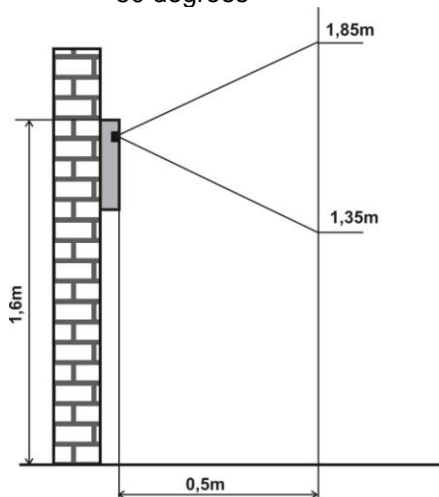

**Fig. 3 Examples of relay connection**
**Relays (10)** on Fig. 1 have many possibilities of practical use. The examples (drawings) can be found on Fig. 3. 12V power supply must be connected for correct operation. The doorphone unit has got all important parts galvanically isolated. The telephone line is isolated from the power supply. The relays' contacts are also galvanically isolated from other doorphone electronic parts.
connected to the mains power supply, please use contactors (power relays) as shown on Fig. 3 example (6).
4. Extending the previous example (3) to two doors with progressive opening (this feature is setup in the TimeRelay unit, which is an optional add-on module)